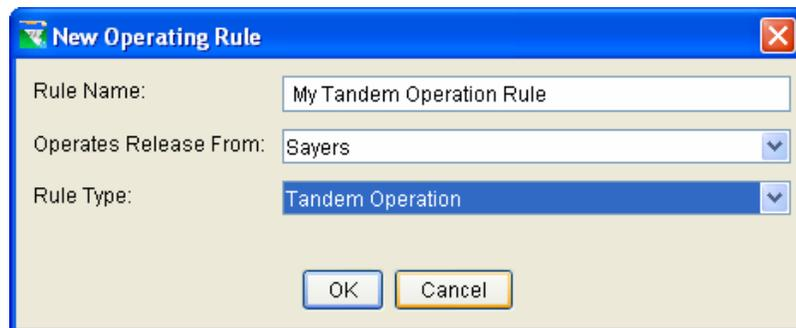

Figure 11.20 Reservoir Editor--New Operating Rule: Tandem Operation
1. To create a Tandem Operation rule, follow the instructions for creating a new rule as described in Section 11.5.1. Be sure to select the *reservoir* for the release component (**Operates Release from**) and **Tandem Operation** for the **Rule Type** in the **New Operating Rule** editor. Figure 11.20 illustrates the creation of a Tandem Operation rule.